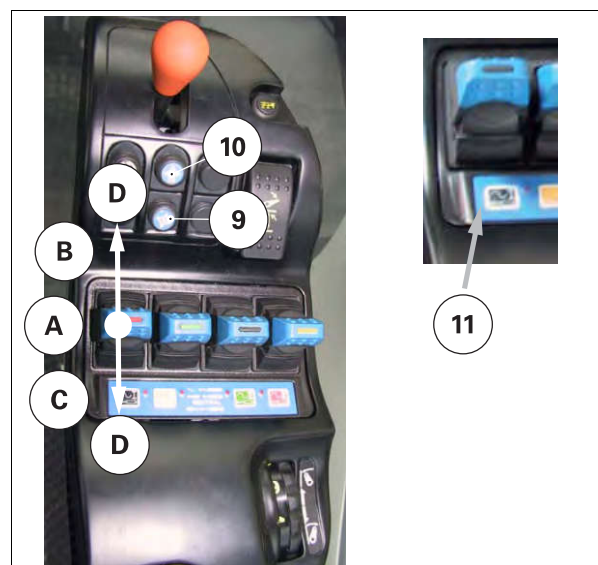

Fig. 29.
Button (10) (ON/OFF, fig. 29) flashes and the relevant error code is displayed on the onboard computer (if fitted).